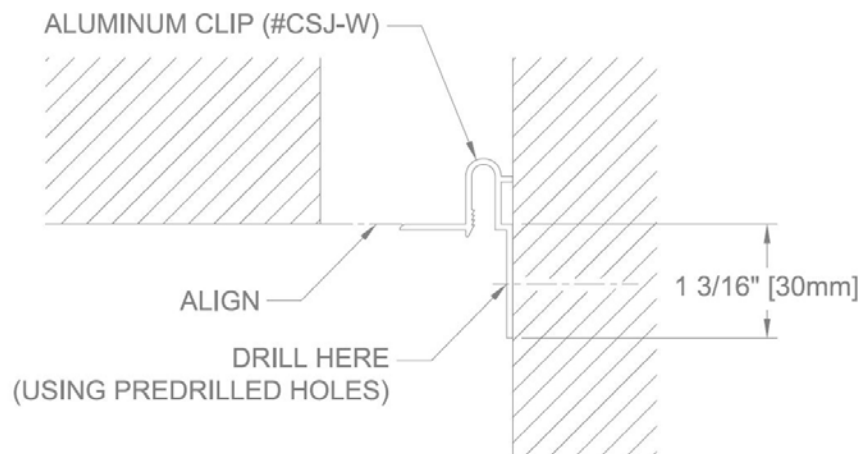

FIGURE 5
1. For all sizes, position aluminum clips (#CSJ-W) per the shop drawings. Install the clips on one side of the joint opening, spacing the clips approximately 24.00" on center. Clips must be aligned and plumb – use wood blocking if necessary. For corner condition, align the underside of mounting clip to surface of wall. Using the clips as a template, mark and drill $\varnothing 5/32$ " holes for $\varnothing 3/16$ " anchors (by installer) if installing into concrete. For gypsum board assemblies, there is no need to predrill, attach clip base members using appropriate drywall screw (by installer) through gypsum board into steel studs. **See Figure 5.**